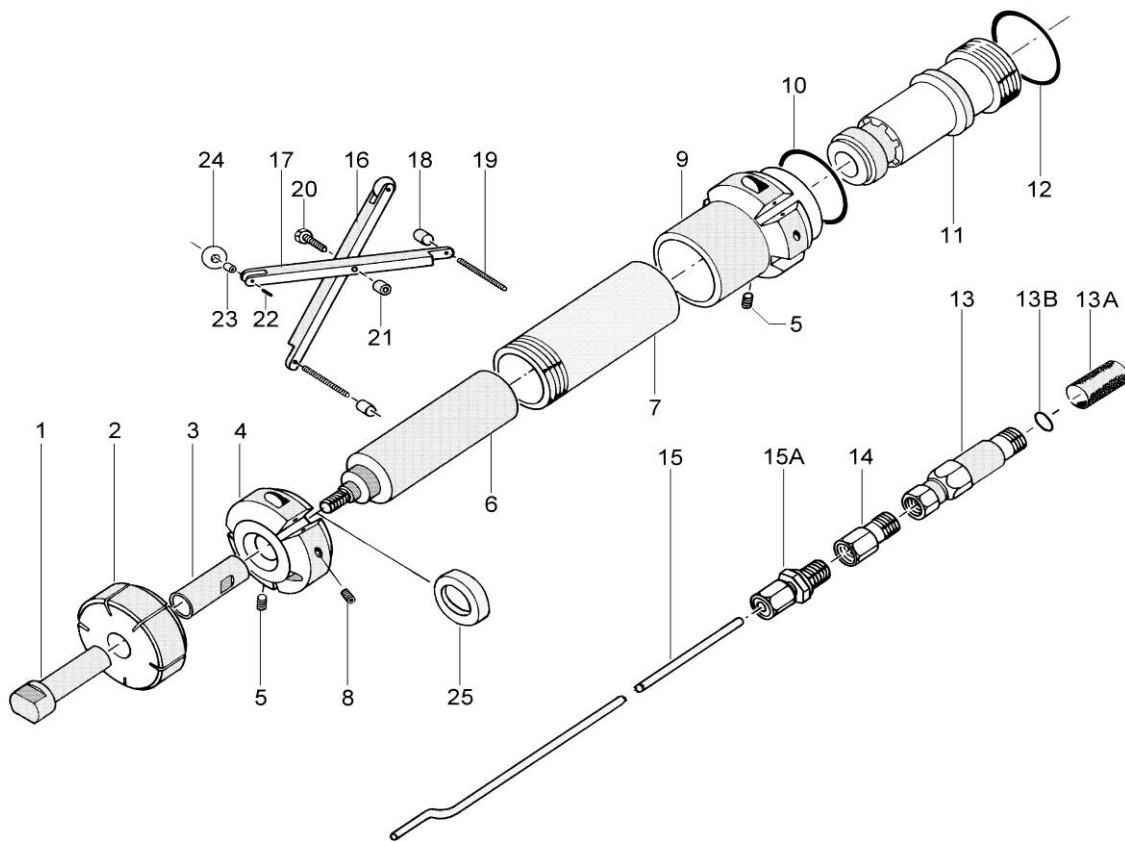

Figure 2
**4.2** Remove strainer housing (Figure 2, Item 13 and Figure 3, Item 44), disassemble and clean strainer with solvent. Reassemble making sure nylon ring seal is in place. Use pipe thread tape to ensure a good seal when replacing strainer housing. Never allow paint to dry anywhere in the system.
#### 6.1 PIPECOATER-I Tool, less Hoses and Gun. (See Figure 2.).....71024